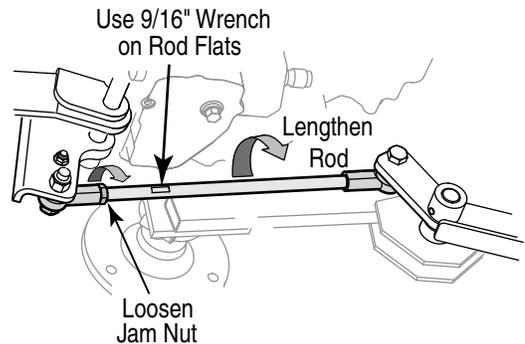

Figure 20
- Loosen the jam nut from against the ball joint on the rear of the rod assembly. See Figure 20.
- Remove the two hex screws securing the LH belt cover to the deck. Slide the belt cover tabs from the slots of the deck index bracket to remove the cover. Refer to Figure 20